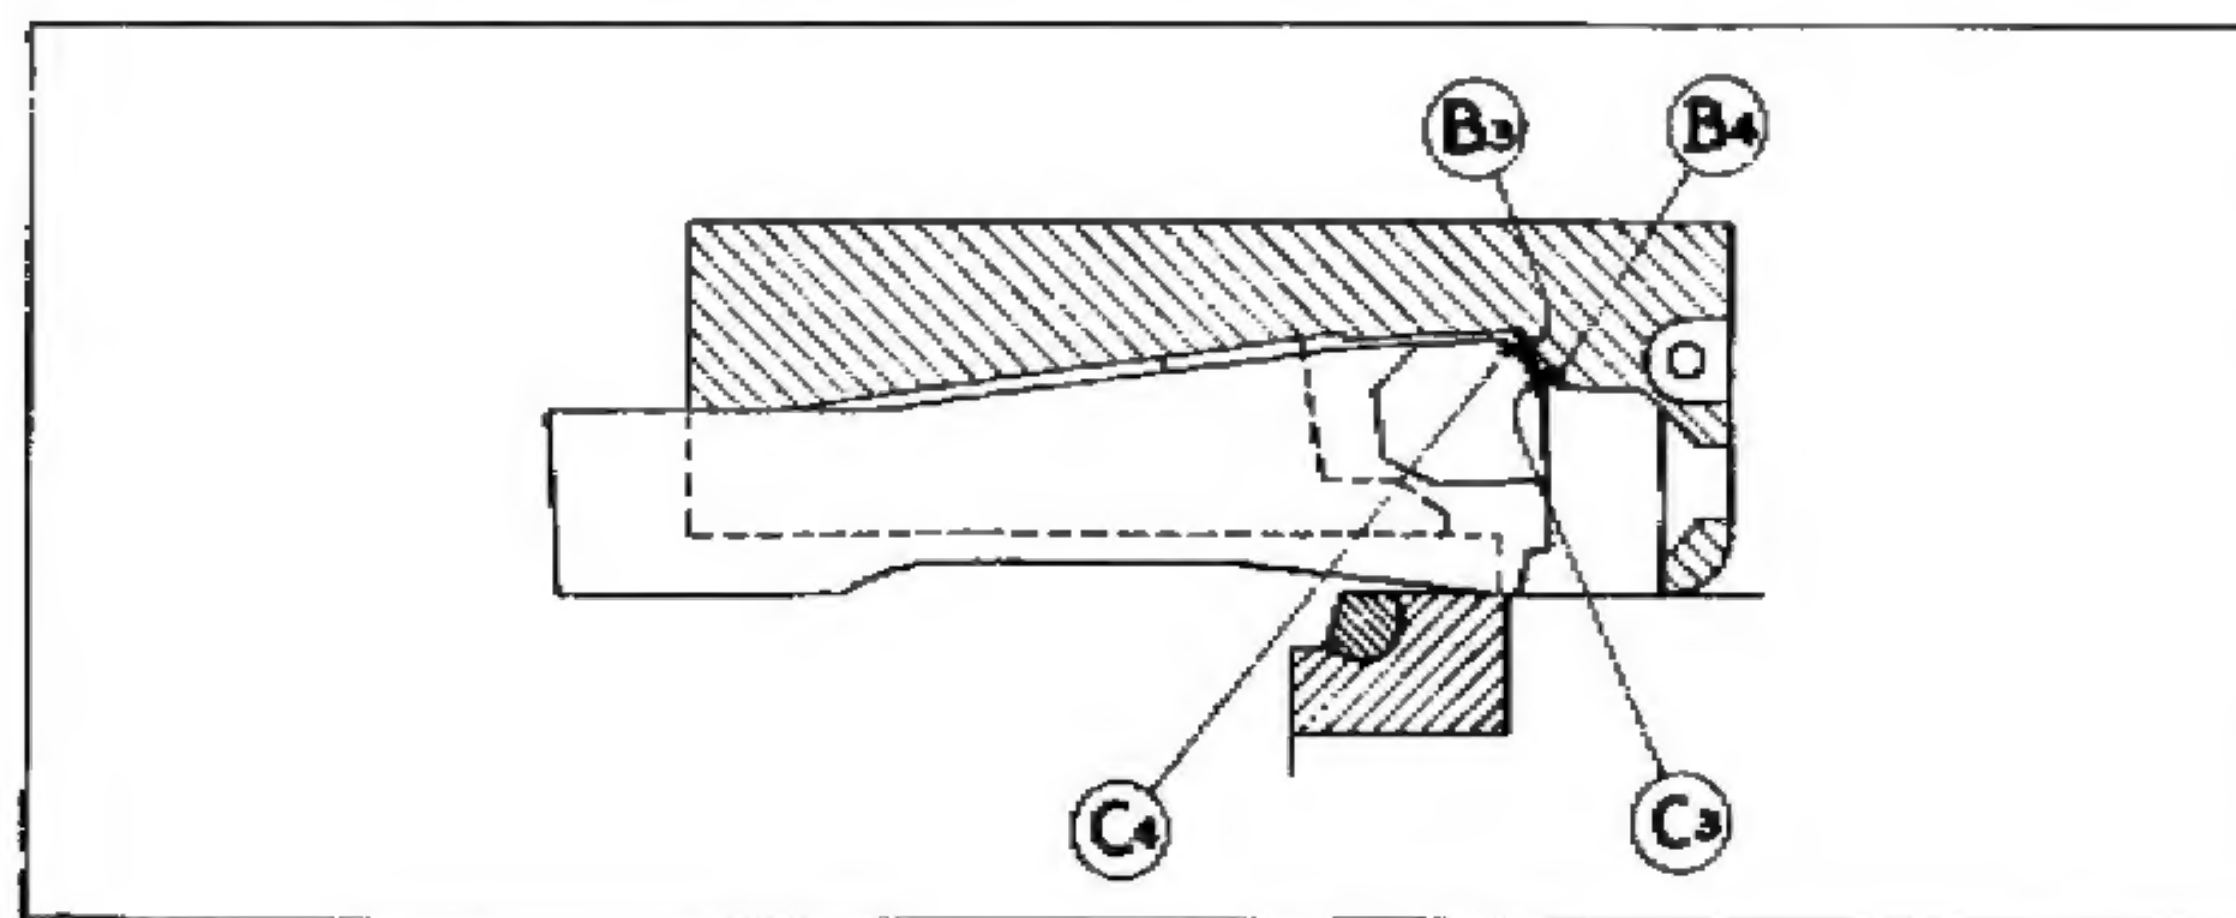

Fig. 10
- The return springs relax and through the slide rod push the slide forward; the ramps of the breech block (C3) and slide (B3) (fig. 10) engage and push the breech block forward.